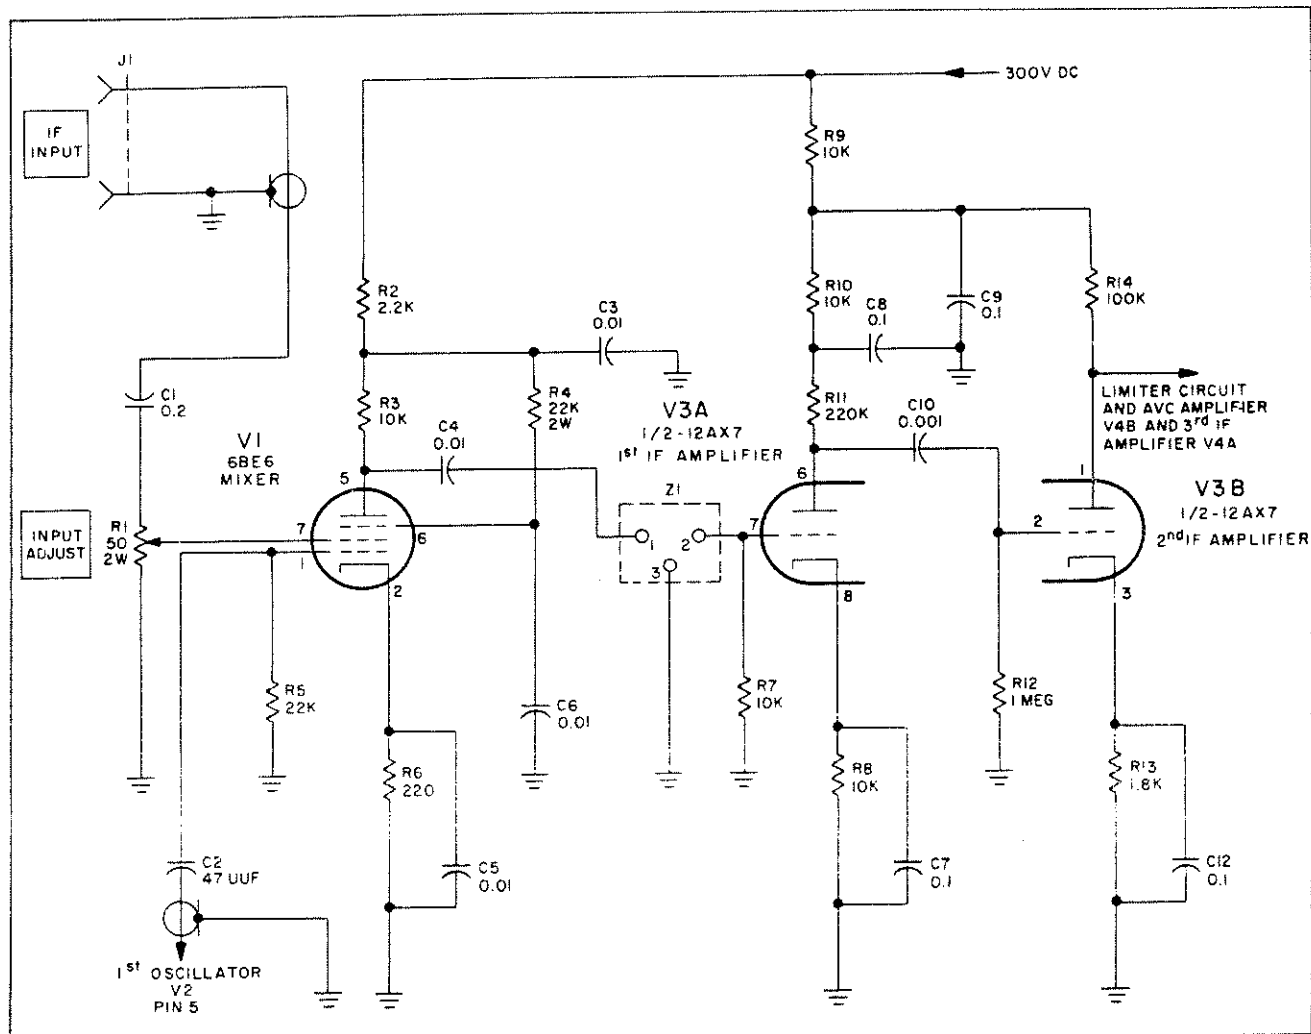

Figure 4-4. Mixer, 1st and 2nd IF Amplifiers, Simplified Schematic Diagram
provided, supported by simplified schematic diagrams (figures 4-4 through 4-9).
MIXER V1, 1st and 2nd IF AMPLIFIERS V3a, V3b (figure 4-4).
- a. Simplified schematic diagrams (figures 4-4 through 4-9).